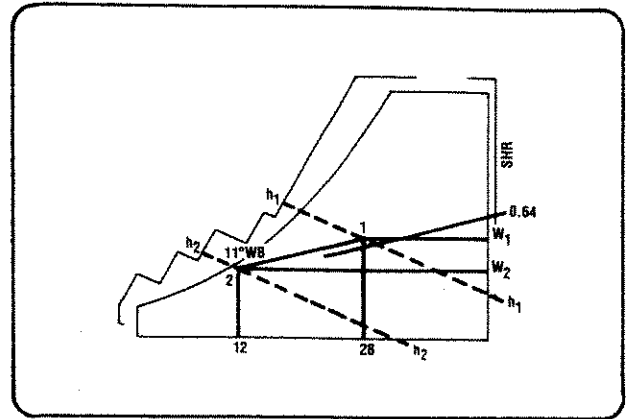

FIGURE 5
- Problem 5: Cooling and Dehumidifying Refer to Figure 5.